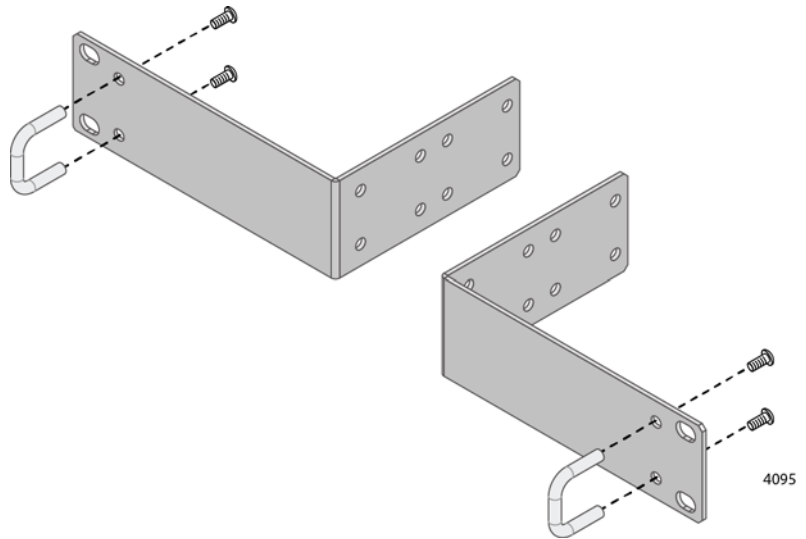

Figure 27. Attaching the Handles to the AT-RKMT-J14 Brackets
1. Attach the two handles to the AT-RKMT-J14 Brackets using the four M3x6mm screws included with the switch. Refer to Figure 27 on page 62.